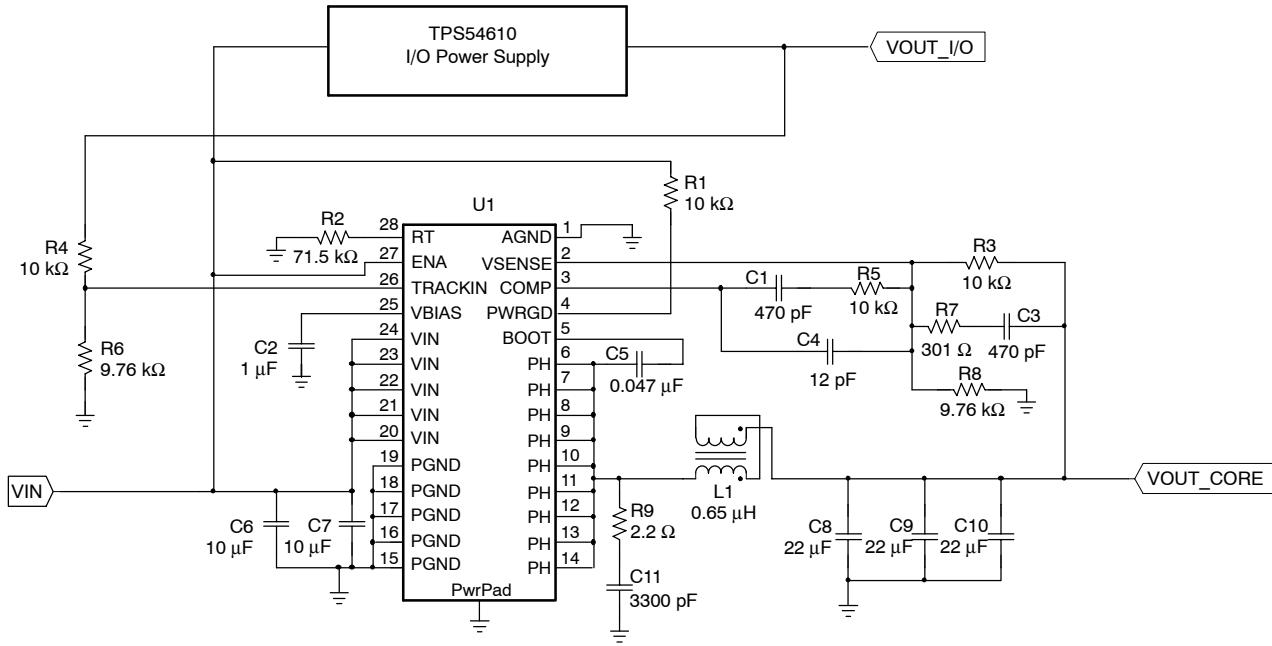

Figure 9. Application Circuit
(1) Specified by design
(2) Static resistive loads only
(3) Specified by the circuit used in Figure 9
(4) Matched MOSFETs low-side r_{DS(on)} production tested, high-side r_{DS(on)} specified by design
Figure 9 shows the schematic diagram for a typical TPS54680 application. The TPS54680 (U1) can provide greater than 6 A of output current at a nominal output voltage of 1.8 V. For proper thermal performance, the exposed thermal PowerPAD underneath the integrated circuit package must be soldered to the printed-circuit